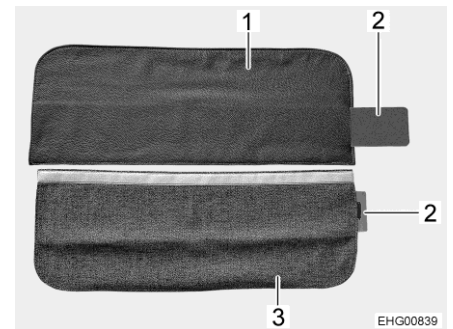

Fig. 86 Seat belt cover
The seat belt cover can be made of leather (Fig. 86,1) or fabric (Fig. 86,3).
- Slide the metal reinforcement plate (Fig. 86,2) completely into the pocket of the seat belt cover (Fig. 86,1 or Fig. 86,3).